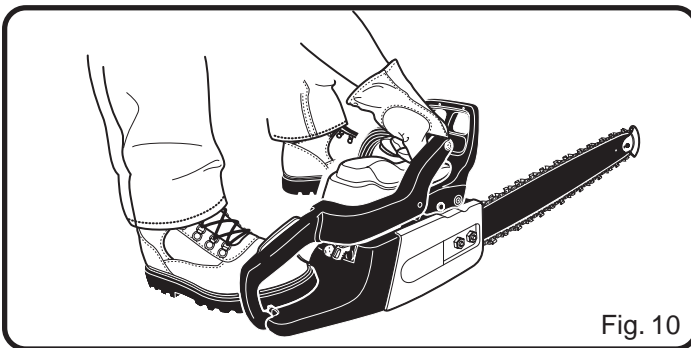

Fig. 10
2. Hold the front handle firmly with the left hand and put your right foot onto the base of the rear handle. See *Figure 10*.